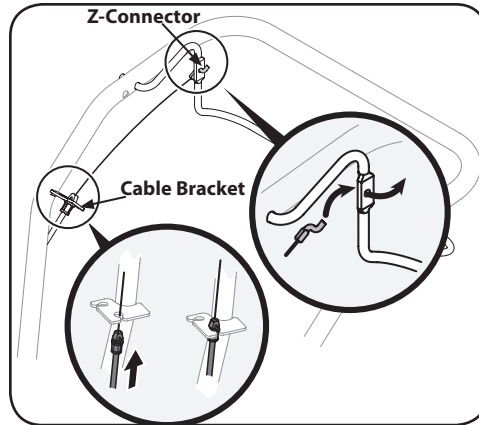

Figure 2-6
- Pull the forward clutch cable with the black end fitting up through the bottom hole of the cable bracket and push the cable connector up through the hole until the groove in the connector snaps into place. See Figure 2-6.
- Place the Z-connector into the hole in the forward clutch bail from the outside of the bail to the inside. See Figure 2-6.